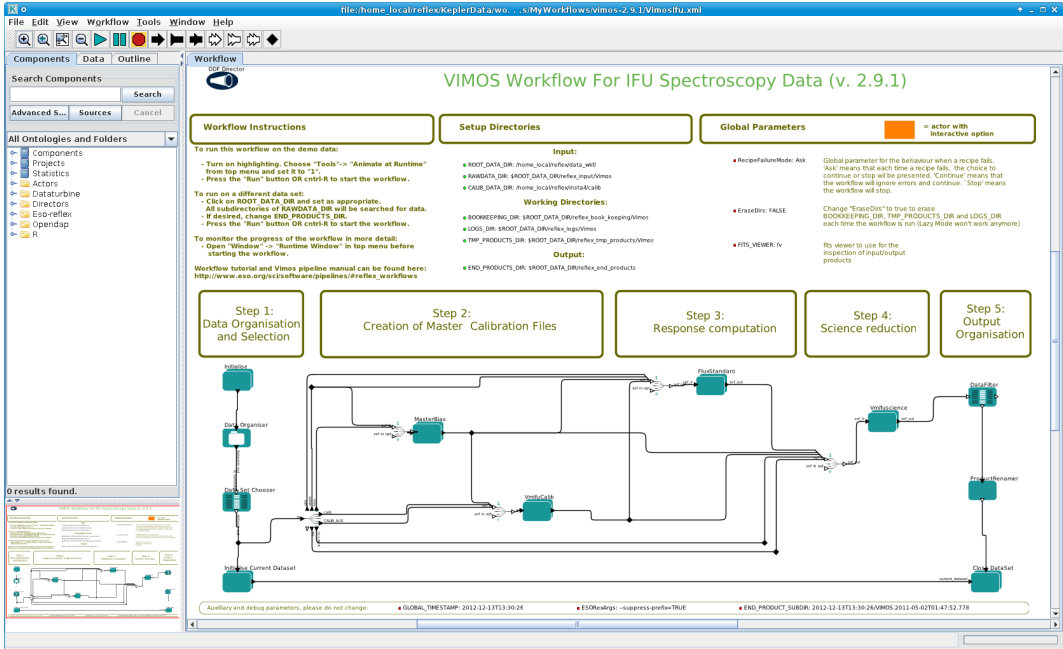

Figure 4.2: VIMOS/IFU workflow general layout.
2. Now open the VIMOS workflow by clicking on File -> Open File, selecting first vimos-2.9.13 and then the file VimosIfu.xml in the file browser. You will be presented with the workflow canvas shown in Figure 4.2. Note that the workflow will appear as a canvas in a new window.